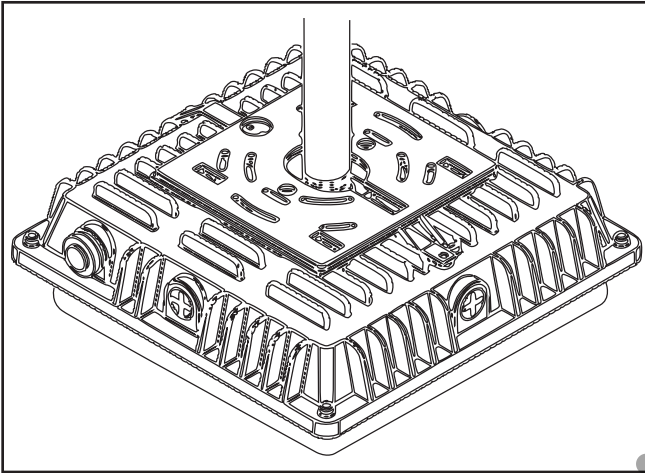

Figure 3.
1. Feed input leads through a 6" x 3/4" threaded conduit pipe (not supplied), apply RTV silicone between threads, and screw conduit pipe into fixture threading (Figure 3).